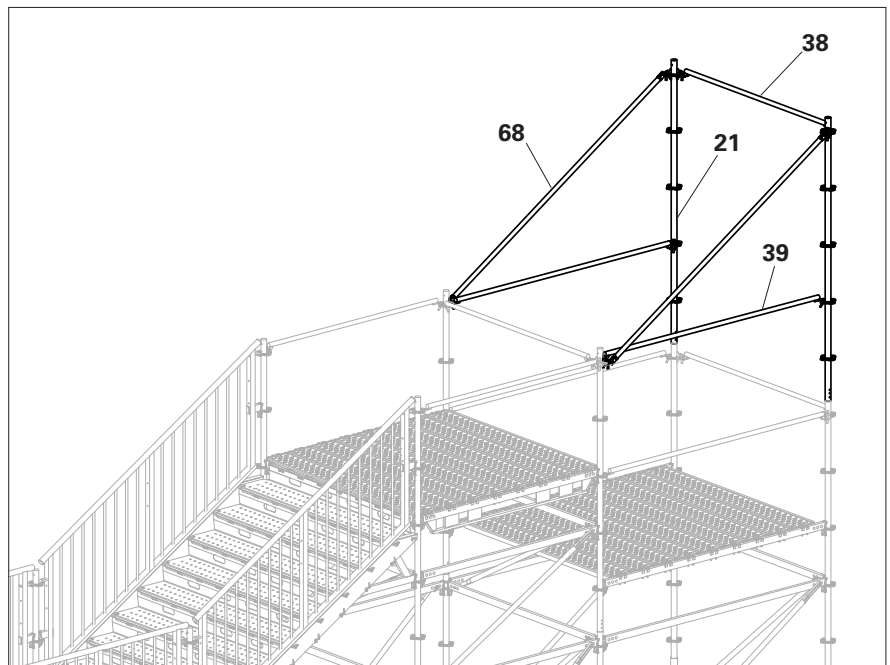

Fig. C1.19
3. Connect 2 x Node Brace UBK-2 250/150 (**68**) to their respective standards at 2.5m high, then insert the two Top Standard UVH-2 250 (**21**) into lower standards and connect the ends of the Guardrail UPGAs and Node Braces to existing Top Standards. (Fig. C1.19)